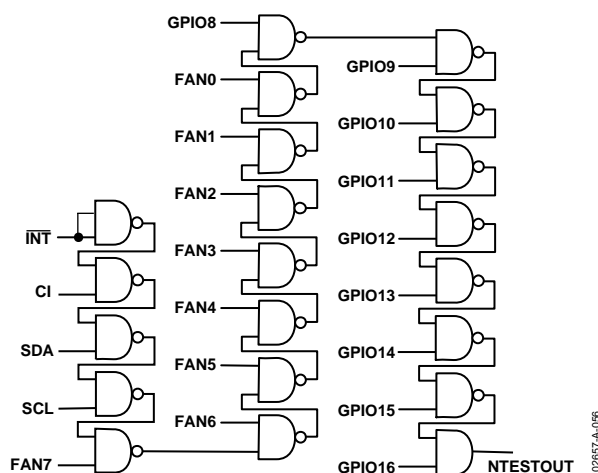

Figure 56. NAND Tree
A NAND tree is provided in the ADM1026 for automated test equipment (ATE) board-level connectivity testing. This allows the functionality of all digital inputs to be tested in a simple manner and any pins that are nonfunctional or shorted together to be identified. The structure of the NAND tree is shown in Figure 56. The device is placed into NAND tree test mode by powering up with Pin 25 held high. This pin is sampled automatically after power-up, and if it is connected high, then the NAND test mode is invoked.
- If any of the inputs shown in Figure 56 are unused, they should not be connected direct to ground, but via a resistor such as 10 k Ω . This allows the automatic test equipment (ATE) to drive every input high so that the NAND tree test can be properly carried out.